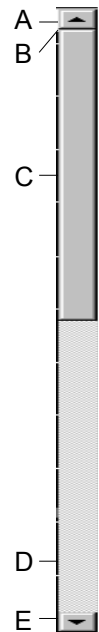

Figure 7-2
The scroll bar has five parts to it (see Figure 7-2). An up arrow (A), a top region (B - not completely shown in Figure 7-2), a thumb button/bar (C), a bottom region (D), and a down arrow (E). The up arrow moves the associated object in the windows up one unit. The down arrow moves the object down one unit. The ‘unit’ may be a single line of text or a segment of the graph. To move the object by this single increment, place the cursor (using the mouse) over either button and press the **left** button once.